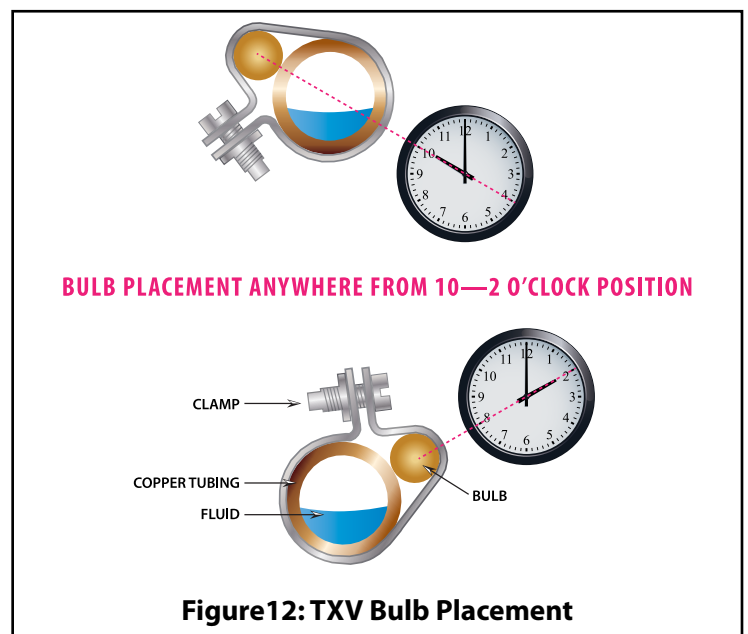

Figure 12: TXV Bulb Placement
2. The bulb should be installed on the upper portion of a horizontal section of the suction line between 10:00 o'clock and 2:00 o'clock as shown in Figure 12.